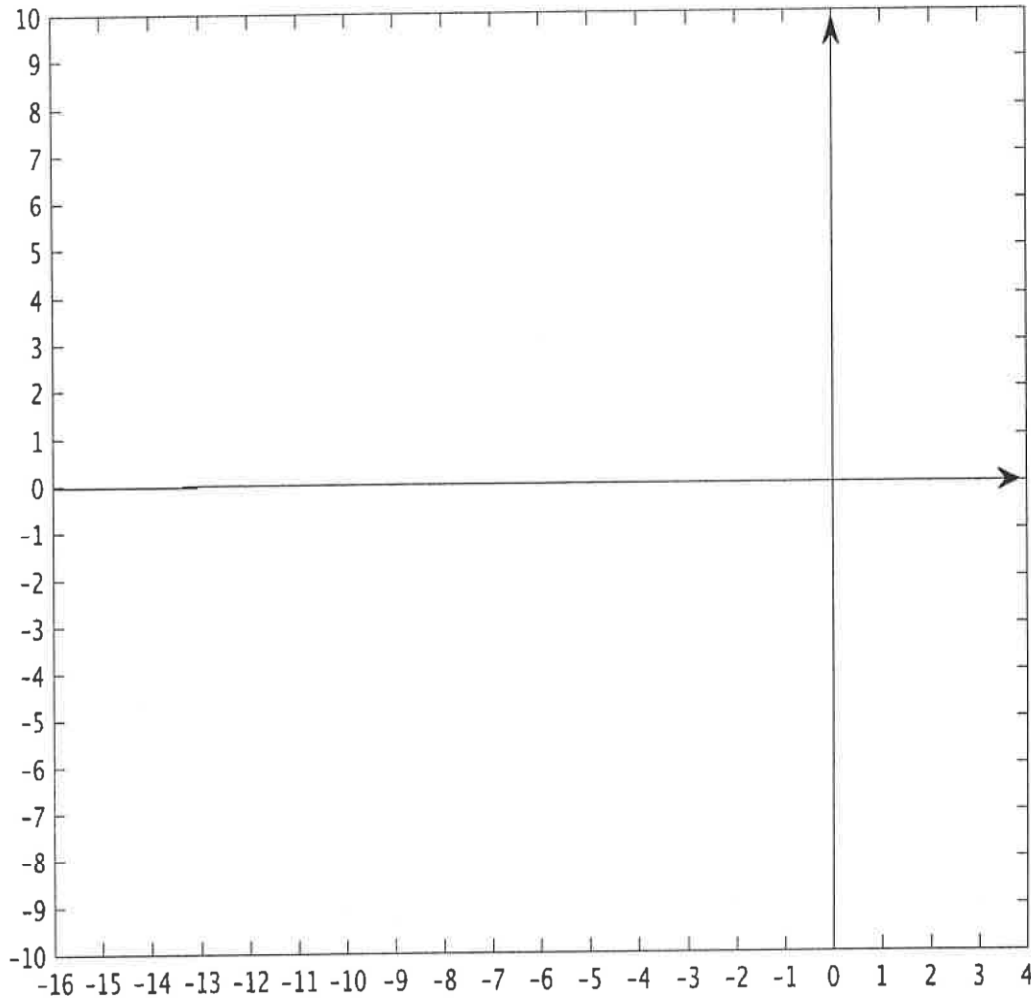

Figure Q2.2 – Sketch Here Your Root Locus of the System in Question 2
- 2) (12 marks) Sketch the Root Locus for the system, in the space provided in Figure Q2.2. Calculate all relevant coordinates: asymptotic angles, break-in/away points, the location of the centroid and the coordinates of the crossover with the Imaginary axis, i.e. ω_{osc} and the corresponding value of the critical gain, K_{crit} , at which the system becomes marginally stable.